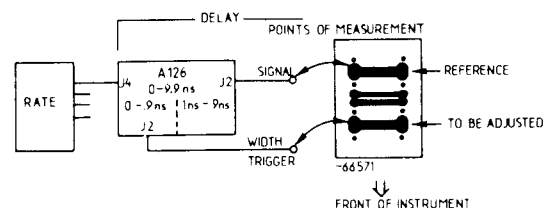

Figure 5-9
1. Using a sampling probe with isolator, measure signal at 50 ohm connecting board between A126 and A127 (signal out and width trigger) as shown in Figure 5-9. With the reference signal probed, adjust the sampling scope delay control so that the leading edge of the reference pulse is in the center of the graticule.